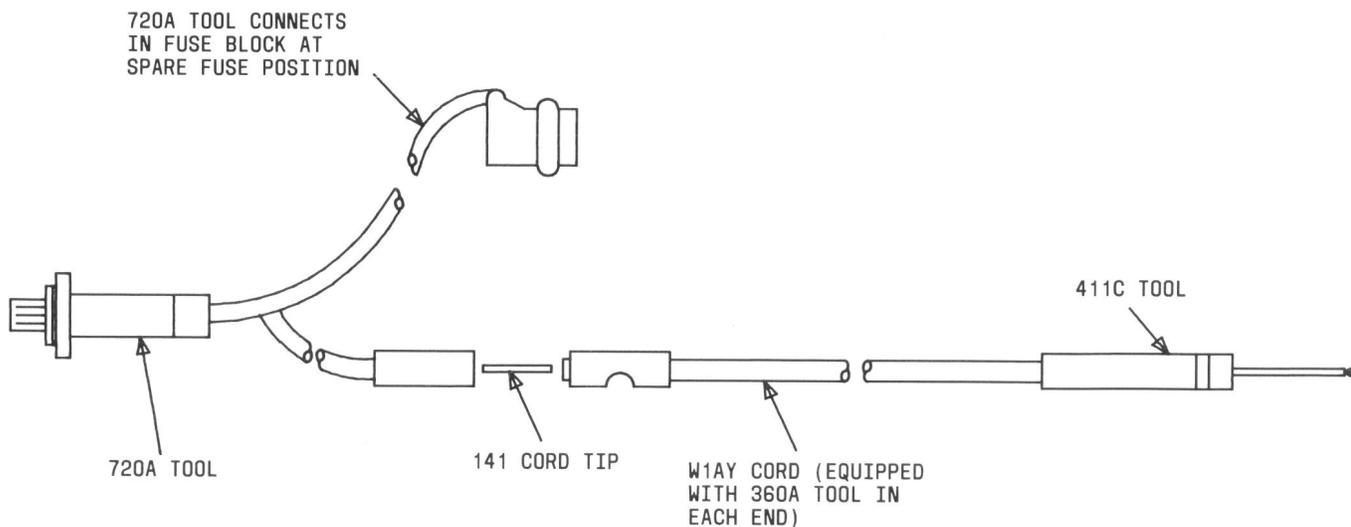

Fig. 2—Fuse Alarm Testing Cord—Tool Connection
- (1) Prepare the fuse alarm test cord (refer to Fig. 2) by connecting one end of the W1AY testing cord to the 141 cord tip and 720A voltage pickup tool. (The KS-6278 connecting clip may be used to replace the 720A voltage pickup tool.)